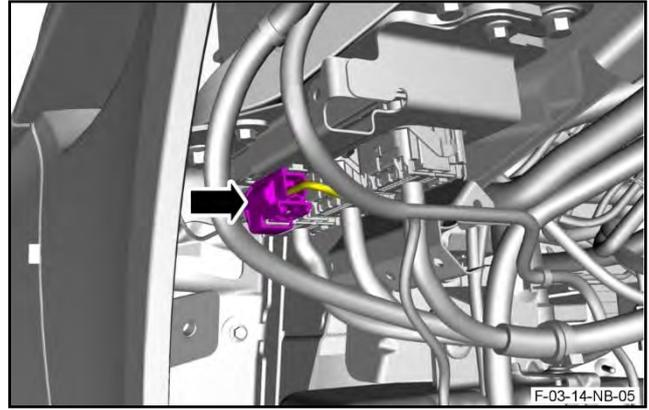

Figure 4
10. Disconnect the electrical connector from the indicator side repeater (refer to Figure 4).